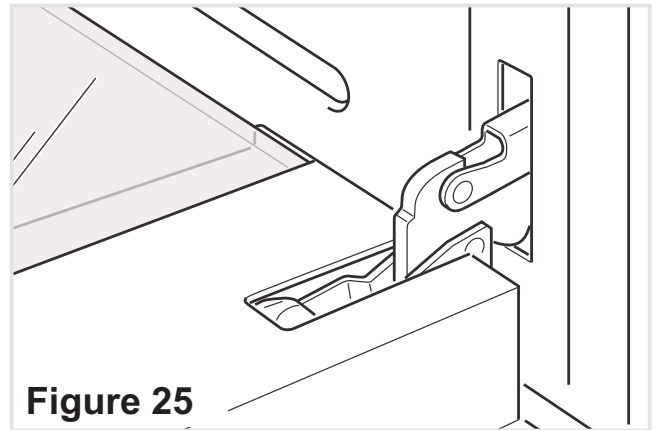

Figure 25
- Open the door to the full extent (fig. 25).